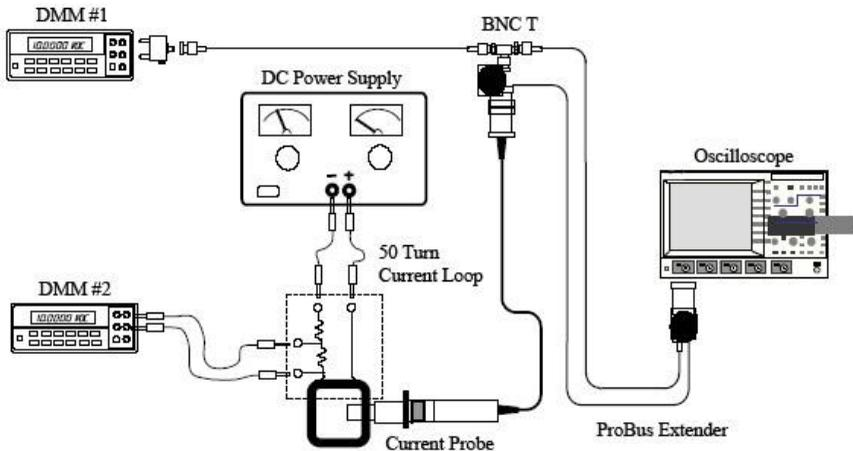

Figure 1, DC Accuracy Test Set Up
- Using banana patch cords, connect the 'V Source' terminal of the 50 Turn Calibration Loop, AP015-CF01, to the positive output of the power supply. Connect the 'V Return' terminal to the power supply negative terminal. (Refer to Figure 1, DC Accuracy Test Set Up.)
2. Connect the AP015 (without the compensation box cover) to the oscilloscope using the setup for the DC Accuracy check in the Performance Verification Procedure. (Refer to Figure 1 in the Performance Verification section).